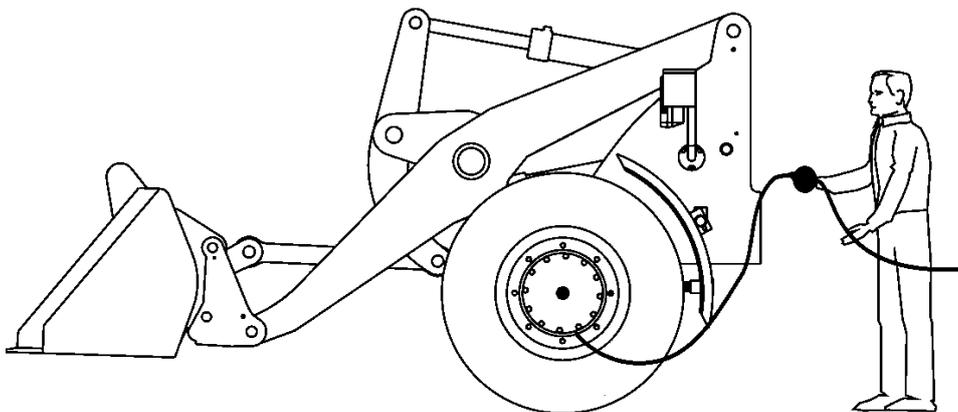

Figure 3-25 Tire inflation diagram
2) When inflating, use a hose long enough to keep away from the tire. During inflating, make sure that there is no one in this area, as shown in Figure 3-25.